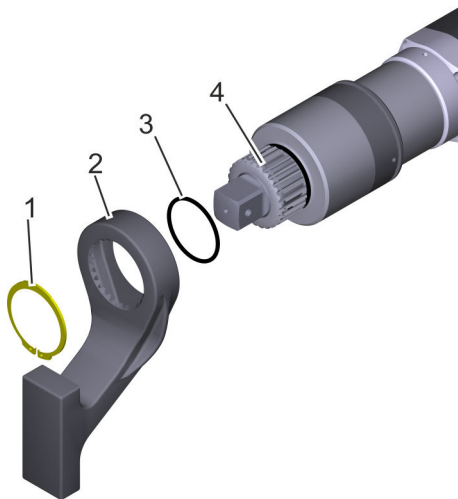

Fig. 11: Securing the reaction arm
Carefully slide the O-ring (Fig. 11/3) onto the serration (Fig. 11/4) on the nutrunner.
3. → Push the reaction arm (Fig. 11/2) onto the serration.
- 4.** → Slide on the circlip (Fig. 11/1) with the aid of the circlip pliers (Fig. 12) and clamp it.